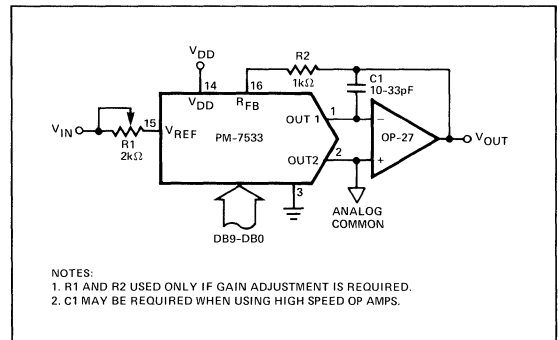

FIGURE 5: UNIPOLAR BINARY OPERATION
Figure 5 shows a simple unipolar circuit using the PM-7533. Resistors R1 and R2 are used to trim for full scale. Full-scale output voltage = $-V_{REF} \times (1023/1024)$ with all digital inputs high. Full scale can also be adjusted using V_{REF} thereby eliminating resistors R1 and R2. In many applications, R1 and R2 are not required. Zero-scale output voltage (with all digital inputs low) should be adjusted to less than 10% of 1 LSB using the op amp offset adjust. This will help to keep the nonlinearity errors to a minimum. Capacitor C1 provides phase compensation and helps prevent overshoot and ringing when using high-speed op amps.
The circuit of Figure 5 can be used either as a fixed reference digital-to-analog converter, or can be used with an AC signal at the V_{REF} terminal. Used with a fixed reference voltage, the output voltage range will be from zero to $-V_{REF}$, (the op amp inverts the voltage). The circuit behaves as an attenuator when used with an AC V_{REF} signal. The input voltage range is $\pm 20V$, but this voltage will be limited by the op amp voltage range. The digital-input-code versus analog-output-voltage is shown in Table I. The transfer function is:
1. Nominal full scale for the circuit of Figure 5 is given by
2. Nominal LSB magnitude for the circuit of Figure 5 is given by